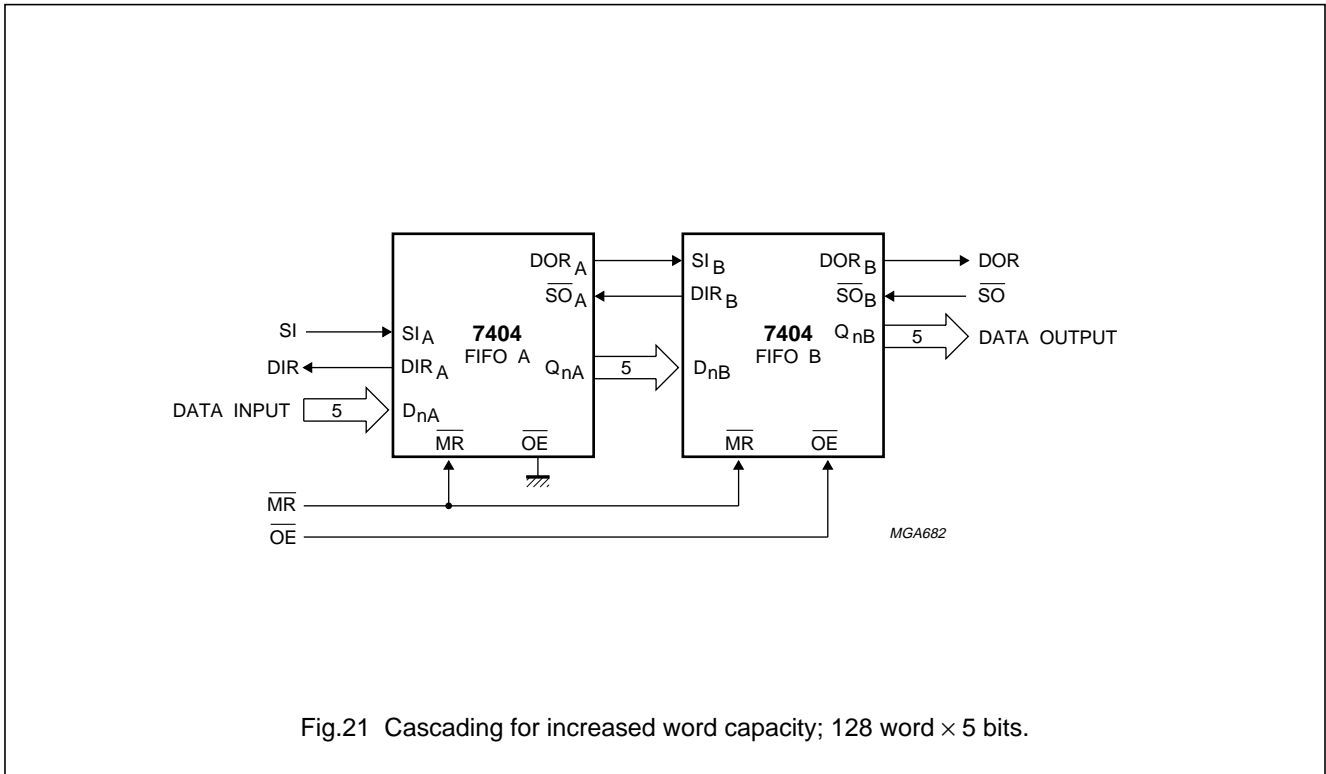
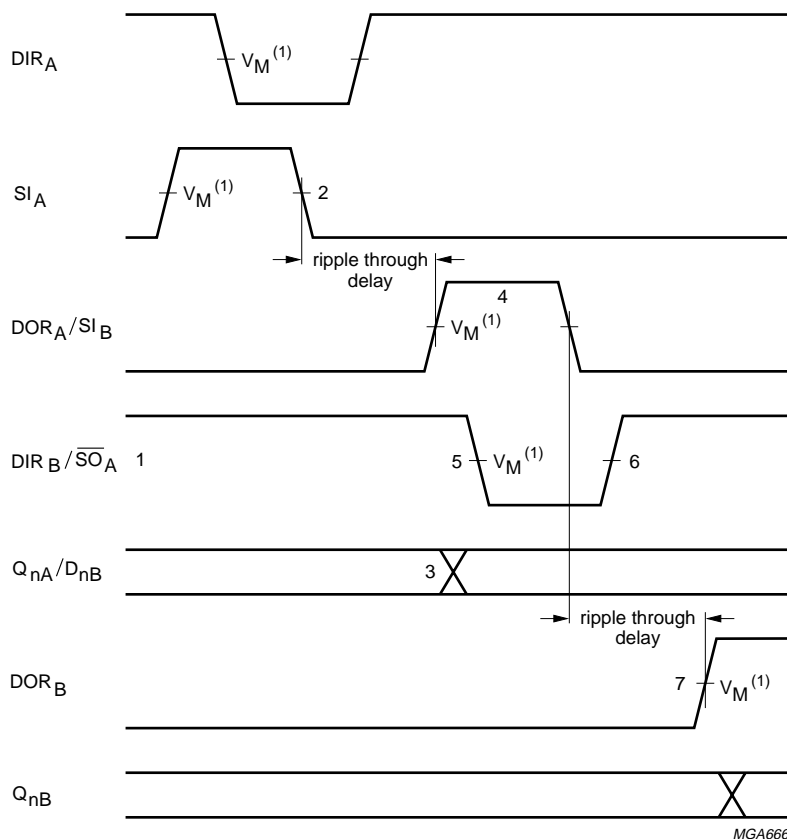
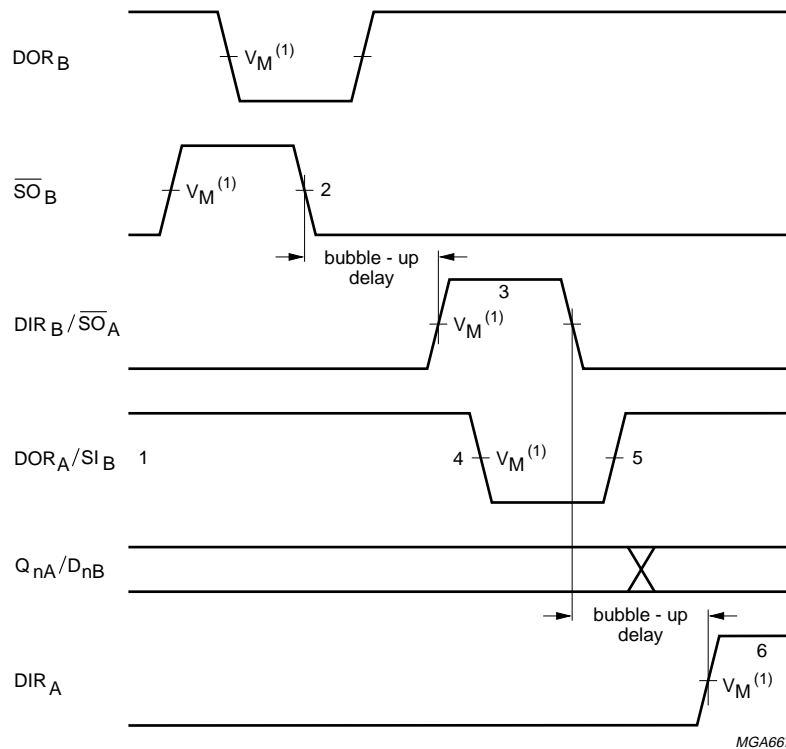
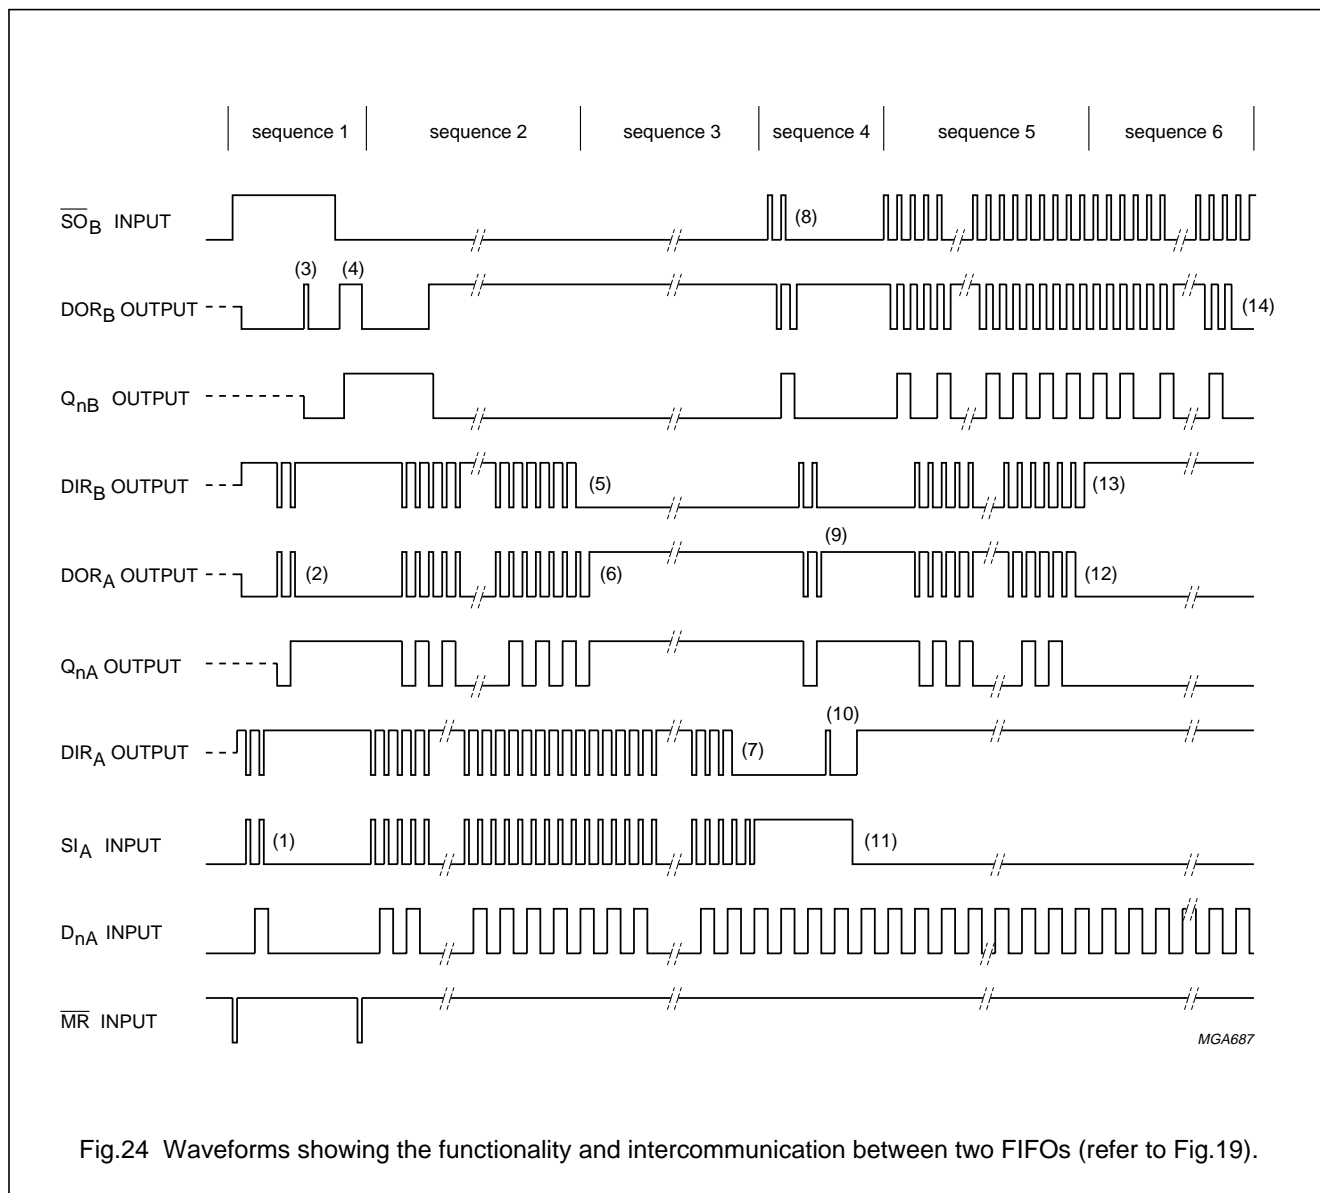

Fig.21 Cascading for increased word capacity; 128 word x 5 bits.
Fig.22 FIFO to FIFO communication; input timing under empty condition.
Fig.23 FIFO to FIFO communication; output timing under full condition.
Fig.24 Waveforms showing the functionality and intercommunication between two FIFOs (refer to Fig.19).
Figure 21 shows two cascaded FIFOs providing a capacity of 128 words x 5 bits. Figure 22 shows the signals on the nodes of both FIFOs after the application of a SI pulse, when both FIFOs are initially empty. After a ripple through delay, data arrives at the output of FIFOA. Due to  $\overline{SO}_A$  being HIGH, a DORA pulse is generated. The requirements of SIB and DnB are satisfied by the DORA pulse width and the timing between the rising edge of DORA and QnA. After a second ripple through delay, data arrives at the output of FIFOB.
Figure 23 shows the signals on the nodes of both FIFOs after the application of a  $\overline{SO}_B$  pulse, when both FIFOs are initially full. After a bubble-up delay a DIRB pulse is generated, which acts as a  $\overline{SO}_A$  pulse for FIFOA. One word is transferred from the output of FIFOA to the input of FIFOB. The requirements of the  $\overline{SO}_A$  pulse for FIFOA is satisfied by the pulse width of DORB. After a second bubble-up delay an empty space arrives at DnA, at which time DIRA goes HIGH. Figure 24 shows the waveforms at all external nodes of both FIFOs during a complete shift-in and shift-out sequence.
**Note to Fig.21**
The “7404” is easily cascaded to increase word capacity without any external circuitry. In cascaded format, all necessary communications are handled by the FIFOs. Figures 22 and 23 demonstrate the intercommunication timing between FIFOA and FIFOB. Figure 24 provides an overview of pulses and timing of two cascaded FIFOs, when shifted full and shifted empty again.
Notes to Fig.22
**Notes to Fig.23**
**Note to Fig.24**